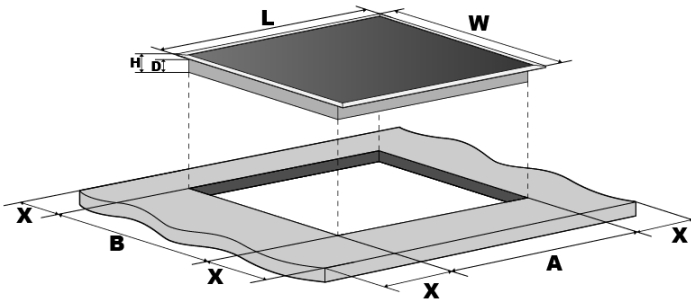

Fig.1
- Cut the work surface according to the dimension shown in the above table (Fig.1)
- A minimum of 50mm space shall be kept around the hole (refer to "X" in Fig.1)